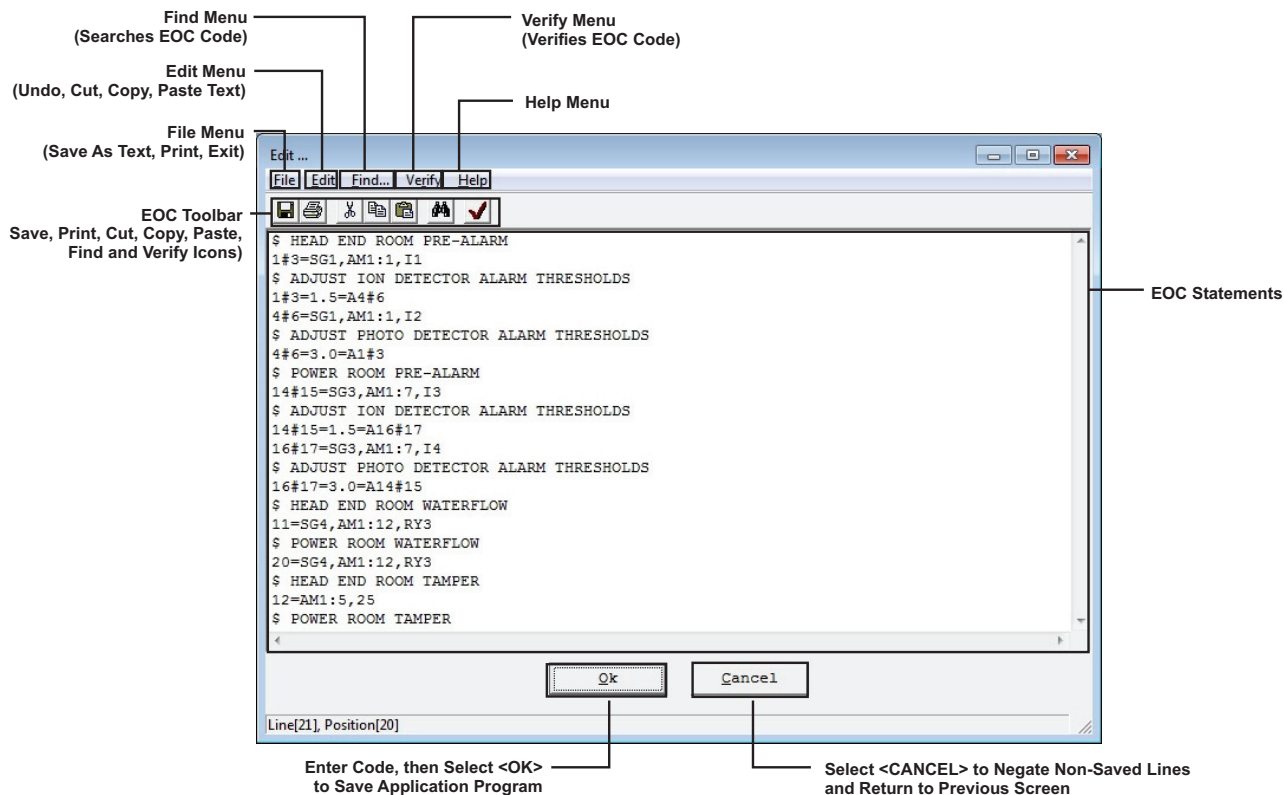

Figure 3-2. EOC Text Editor Screen
1. Enter EOC execution statements in free-form format just as if using a standard word processing program. It is not necessary to create line numbers for EOC statements. Figure 3-2 shows EOC code that has been entered via the program's free-form text editor.